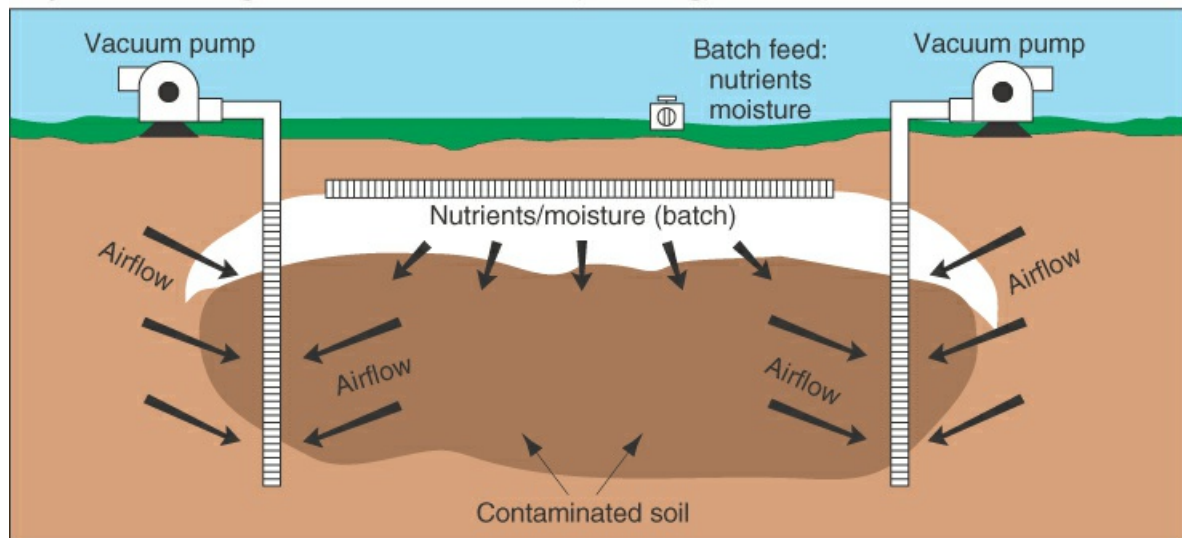

Figure P3.2.1
****3.2.1** Examine Figure P3.2.1. What would be a good system to designate for this bioremediation process? Is your system open or closed? Is it steady state or unsteady state?